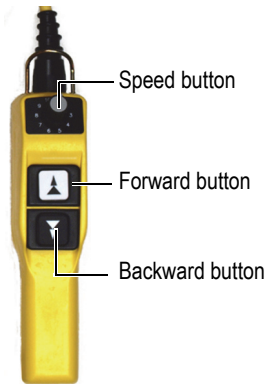

Figure 4-1 WeldROVER—Remote control for MCDC-01
1. On the remote control, press the corresponding button halfway down (Figure 4-1 on page 66).
1. On the remote control, press the corresponding button completely down (Figure 4-1 on page 66).